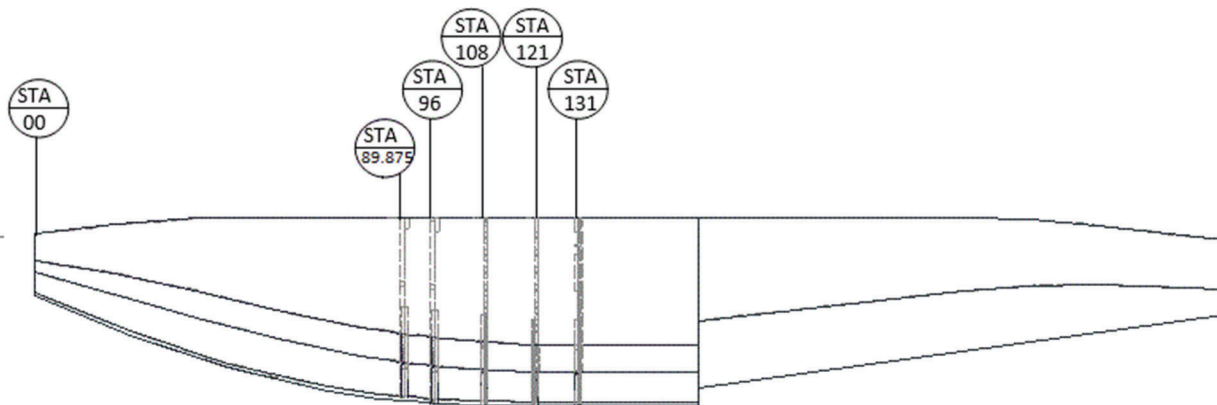

FIGURE 1: AFFECTED BULKHEAD FLOAT STATION LOCATIONS
Aircraft equipped with Wipline model 10000 amphibian floats that regularly operate in rough water, may experience cracking of the forward and aft lower bulkhead flanges located in the baggage area of the float as indicated in Figure 1. This service letter and associated kit reinforce the lower bulkhead flanges to reduce probability of cracking as a result of operations in rough water.
- 1) Remove the top deck covers and open baggage hatches to gain access to the affected bulkheads shown in Figure 1. Remove baggage hatch floors to gain access to lower bulkhead flanges.
- 5) One doubler at a time; apply PR1422 sealant completely to mating faces of doubler, bulkhead, and bottom skin, then rivet appropriate doublers as called out in the Parts List and Figures 2-6 to the forward and aft lower bulkhead flanges and bottom skin using MS20470AD4 rivets, grip as required. Perform this operation at bow bulkheads indicated in Figure 1. Drive rivets while sealant is wet.